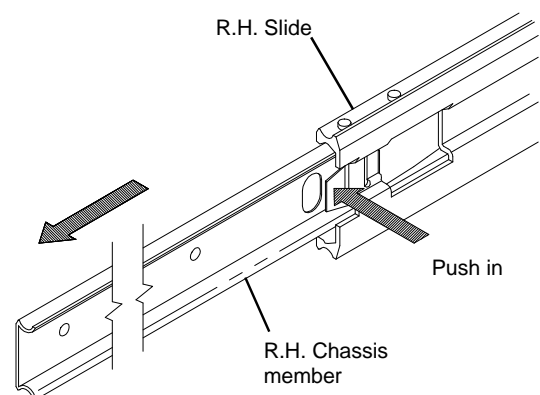

Figure 15
6. To remove the shelf and chassis rail, refer to figure 15.